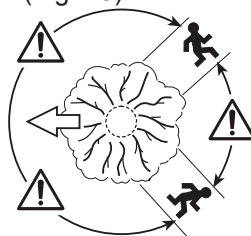

Fig. 28
3. An escape path should be planned and cleared as necessary before cuts are started. The escape path should extend back and diagonally to the rear of the expected line of fall (Fig. 28).